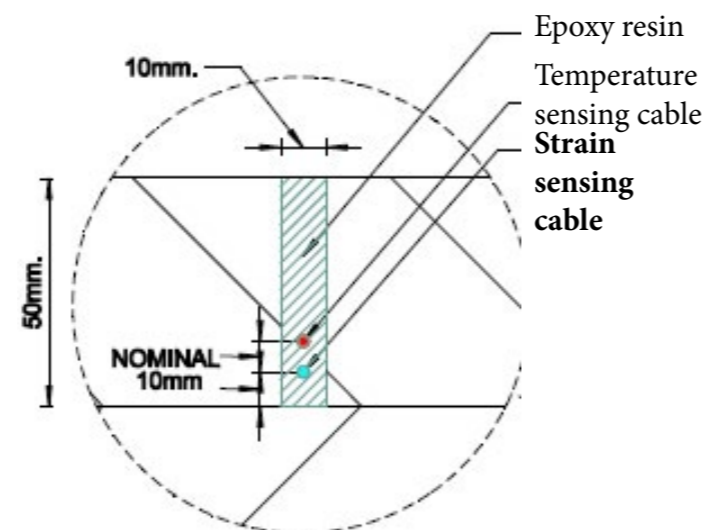

Figure 1. Strain and temperature sensing cables embedded in the asphaltic top layer of the pavement
The flexible asphaltic concrete (AC) surface layer is approximately 100mm thick. The sensing cables were embedded in this surface layer at a depth of 30-40mm. A commercially available 2-component epoxy resin adhesive was selected to bond the sensing cables to the pavement. A number of alternative epoxy resins were considered for this purpose and the final selection was based on ease of installation, curing time, stiffness, creep and adhesion properties both to the GFRP sensing cable and the AC pavement layer. Test installations were conducted to assist in epoxy resin selection. The selected epoxy resin is used by the highway authority for other in-pavement sensor applications and in the airline industry for runway lighting. The epoxy resin is resistant to physical damage and is black in colour. Sensing cable embedment is illustrated in Figure 1.